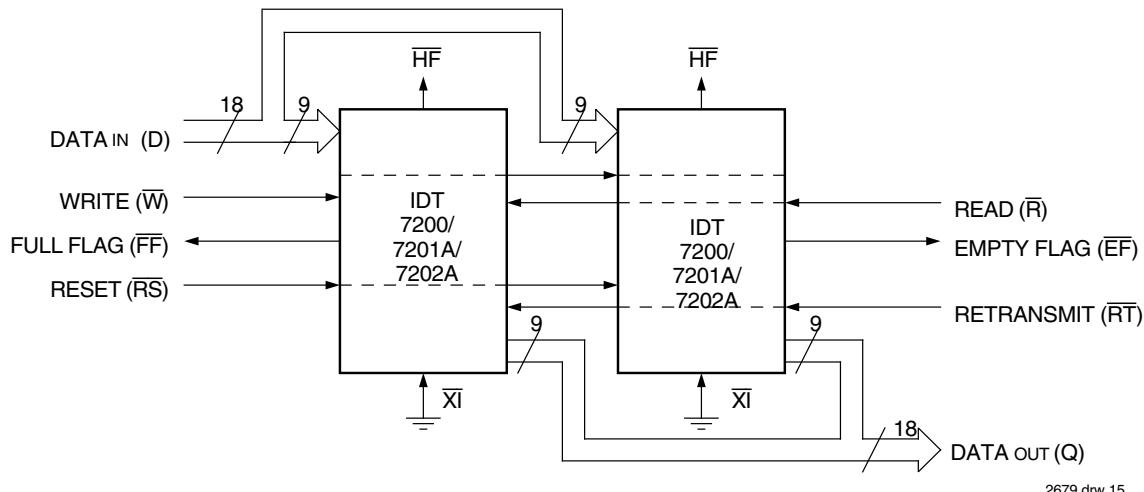

Figure 13. Block Diagram of 256 x 18, 512 x 18, 1,024 x 18 FIFO Memory Used in Width Expansion Mode
Word width may be increased simply by connecting the corresponding input control signals of multiple devices. Status flags (\overline{EF} , \overline{FF} and \overline{HF}) can be detected from any one device. Figure 13 demonstrates an 18-bit word width by using two IDT7200/7201A/7202As. Any word width can be attained by adding additional IDT7200/7201A/7202As (Figure 13).
2. For Flag detection see section on Width Expansion and Figure 13.